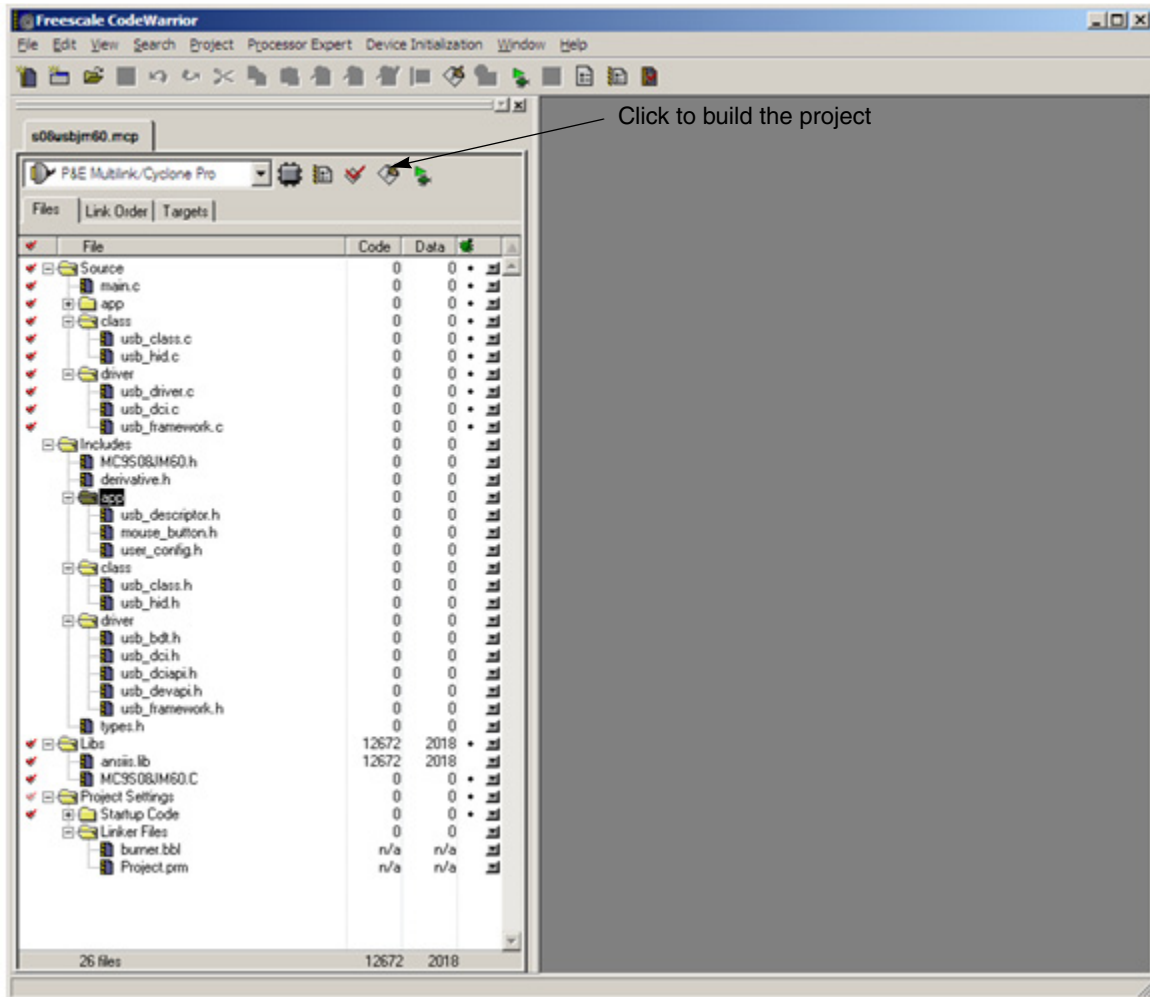

Figure A-9. Build s08usbjm60.mcp project
2. After you have opened the project, the following window appears. To build the project, click the button as shown in Figure A-9.